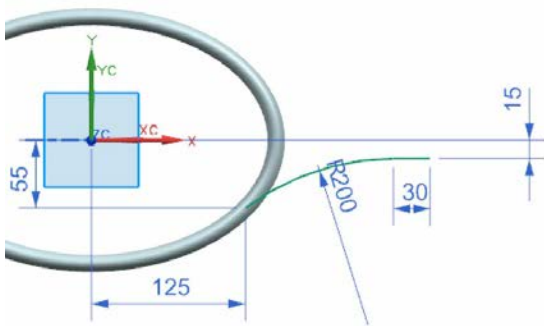

Figure 10-114 The guide curve for creating the sweep surface
- Create the sweep surface as the second feature and mirror the surface, refer to Figures 10-114 through 10-117.
1. Select the XC-YC plane as the sketching plane and draw the guide curve, as shown in Figure 10-114. Next, exit the sketching environment.